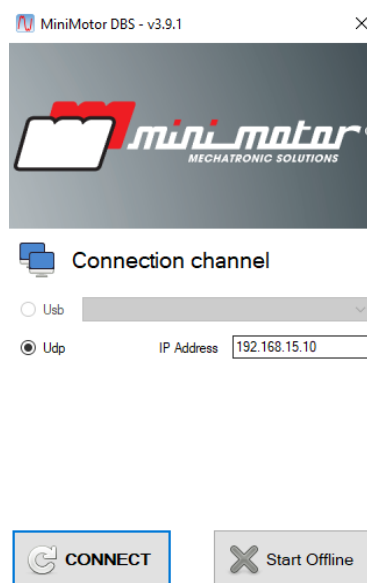

Figure 12
The wirings and LEDs in Figure 12 refer to the Ethernet IP equipped version.
The wirings and LEDs in Figure 12 refer to the Powerlink equipped version.
The wirings and LEDs in Figure 12 refer to the Profinet equipped version.
- 5 Once the program is run, select the connection type. If choosing USB, wait for the device to be found and connect. If the DBS is connected via Fieldbus to a net that can exchange data over Ethernet (Ethernet IP, Profinet, Powerlink and EtherCAT with EoE functionality) you can connect typing the DBS IP address. (Figure 12).
- 6 If the firmware stored in the device is no up to date the screen in Figure12 appears.